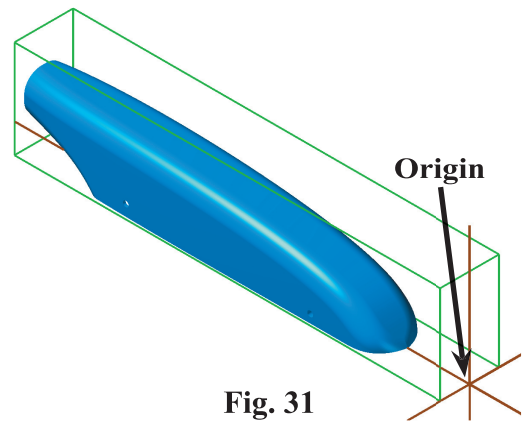

Fig. 31
Step 1. Display the origin. Use **F9** to show the axes, **Fig. 31**.